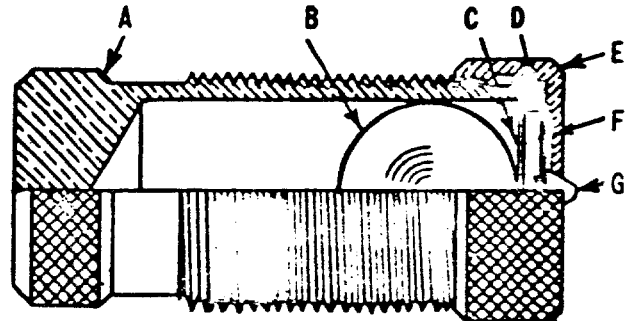

Fig. 21 Contact Assembly for Directional Unit
The contacts of the directional unit, Fig. 21, are specially constructed to suppress bouncing. The stationary contact (G), is mounted on a flat spiral spring (F) backed up by a thin diaphragm (C). These are both mounted in a slightly inclined tube (A). A stainless steel ball (B) is placed in the tube before the diaphragm is assembled. When the moving contact hits the stationary contact, the energy of the former is imparted to the latter and thence to the ball, which is free to roll up the inclined tube. Thus, the moving contact comes to rest with substantially no rebound or vibration. To change the stationary contact mounting spring, remove the contact barrel and sleeve as a complete unit after loosening the screw at the front of the contact block. Unscrew the cap (E). The contact and its flat spiral mounting spring may then be removed.
W/1003) Fig. 21